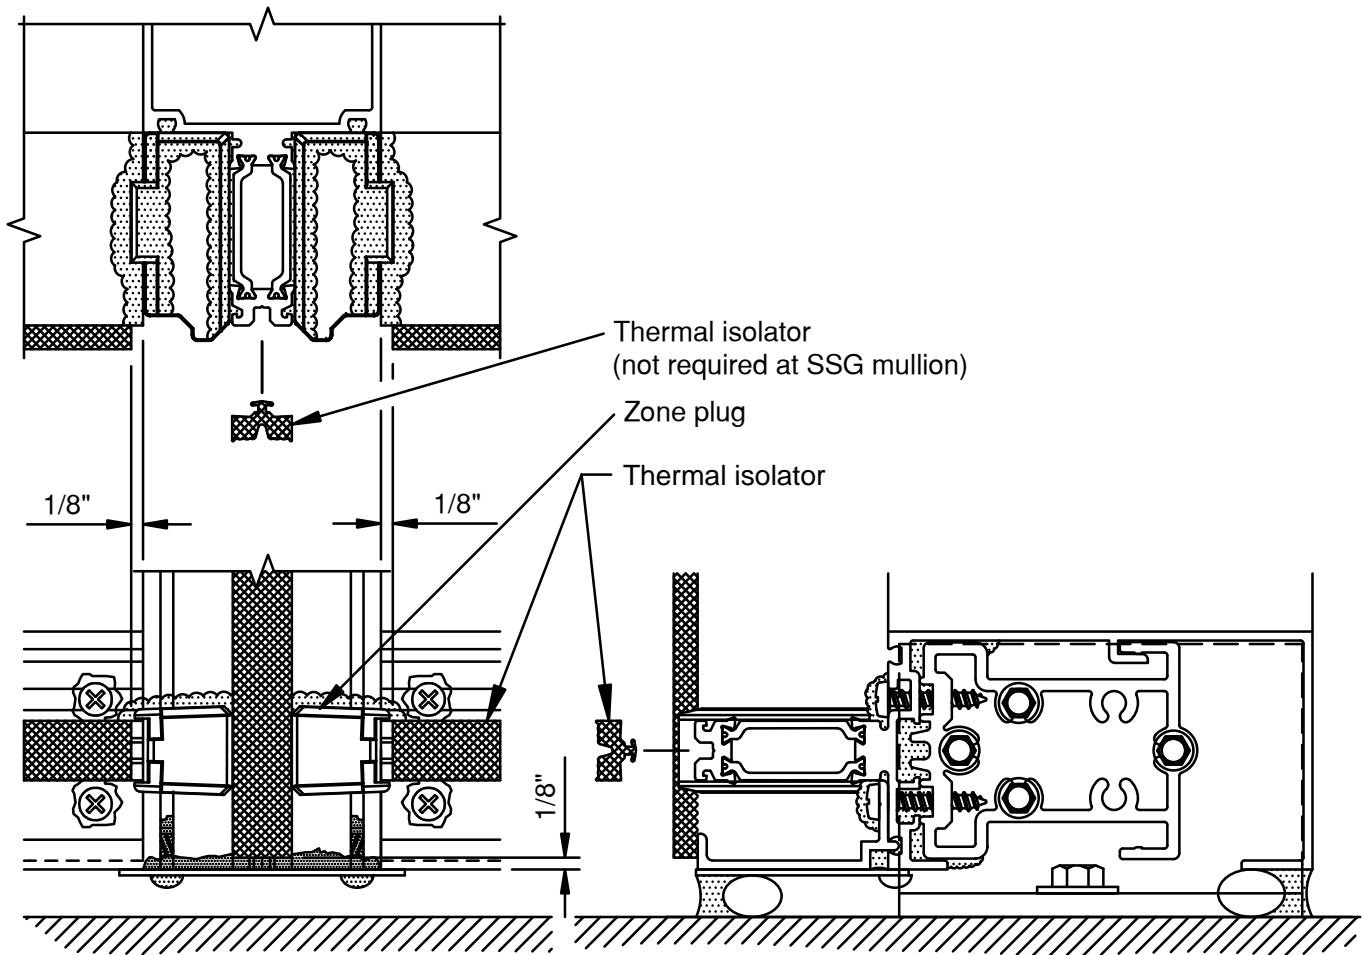

FIGURE 12
- 3.2 Install thermal spacer into groove on face of mullion tongues. Run through at vertical splice joints. Cut short 1/8" from each end of the mullion. SEE FIGURE 12.